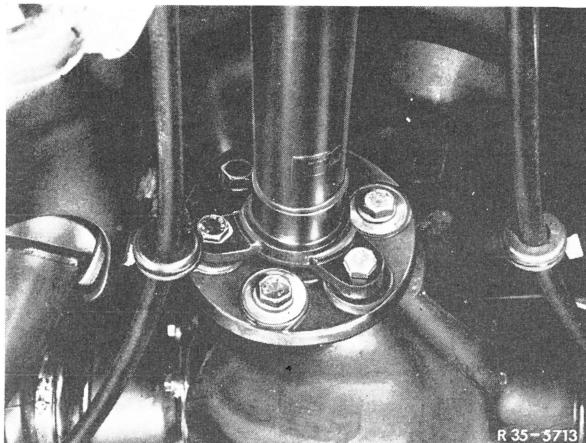

Fig. 5
- 8 Unflange propeller shaft on rear axle and push forward out of centering (Fig. 5).
**22** Flange-on propeller shaft (Fig. 5).